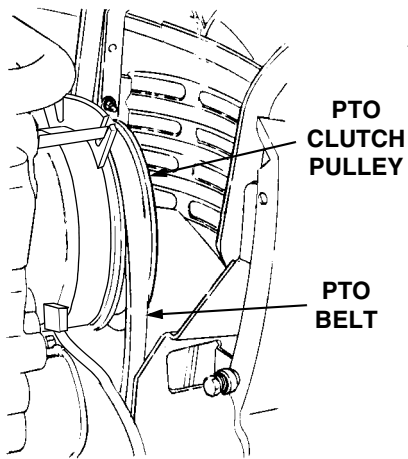

Figure 53
10. Open the tractor hood and install the forward end of the PTO belt onto the PTO clutch pulley on the front of the engine. Ensure that the narrow side of the PTO belt engages the groove of the pulley (Refer to Figure 53).